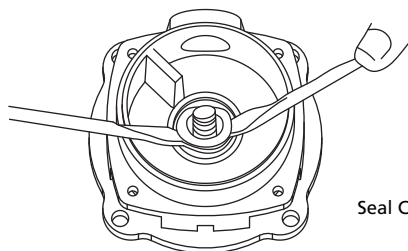

Figure 13 - Remove Mechanical seal
- b. Using two (2) screwdrivers, pry the ceramic seal and rubber gasket from the cavity in pump adaptor (See Figure 13).